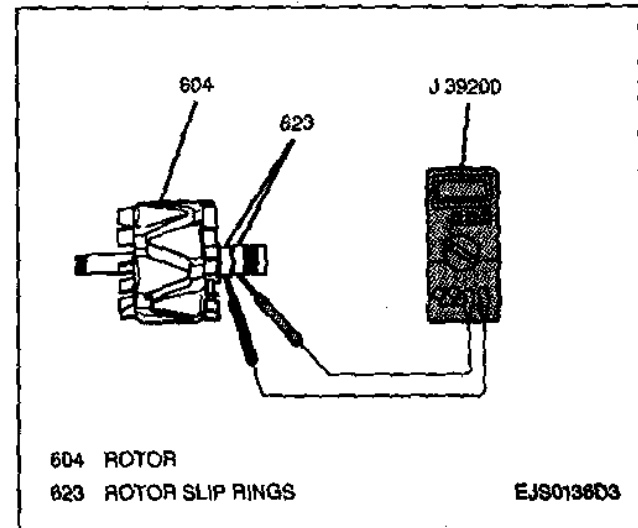

Figure 13—Measuring Rotor Slip Ring Resistance
1. Resistance between the rotor slip rings using a J 39200 (Figure 13). If resistance is greater than 3.5 ohms, replace the rotor.